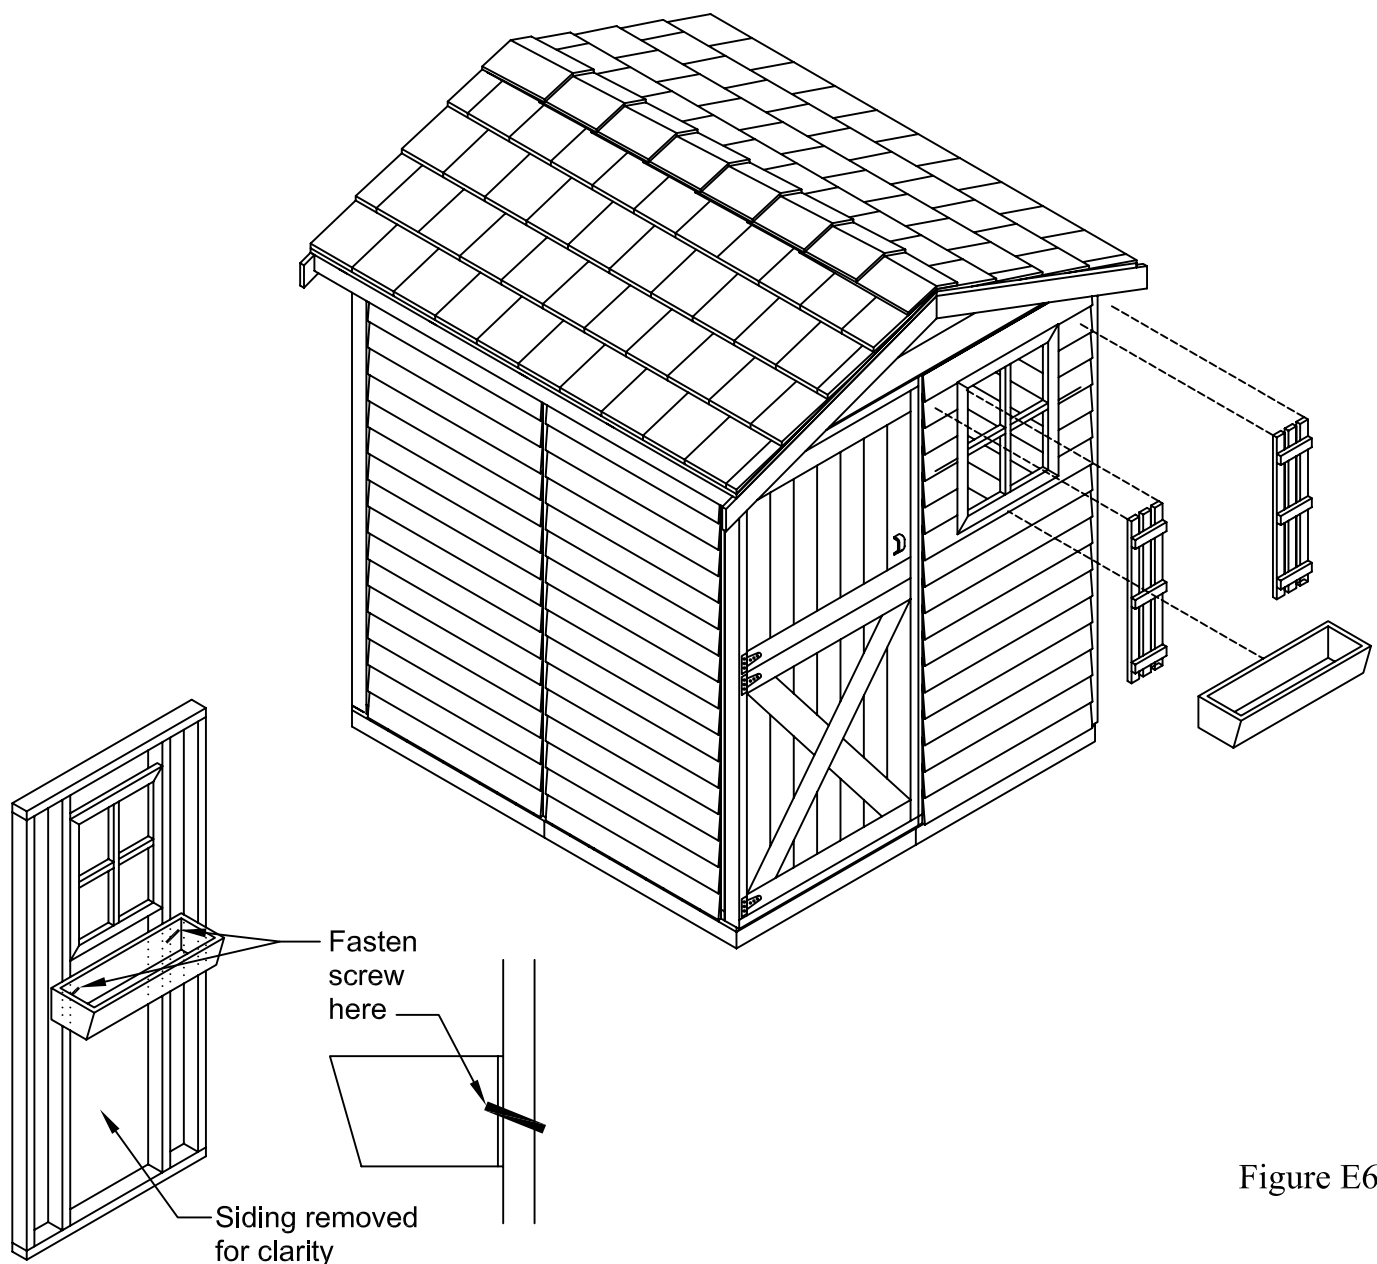

Figure E6
6. Attach the shutters with 1 ¾" finishing nails [Figure E6]. you may want to pre-drill the holes to avoid splitting the wood.